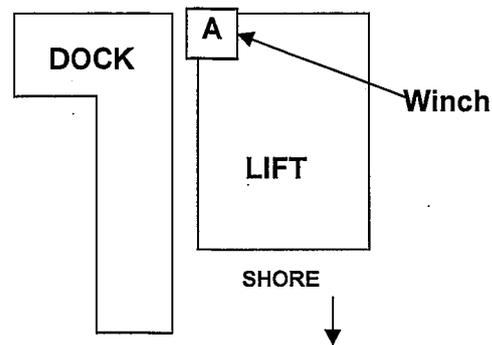

FIG. 36 – PREFERRED POSITION ABOVE
2. When the lift is placed into the water, the winch needs to be positioned next to the dock (See FIG. 36 and 37). Position lift accordingly before placing lift into water.
Note: The **PREFERRED POSITION** of the lift is on the right side of the dock when viewed from the shore (See FIG.36). When the lift is installed in this position, the winch and lifting cable are at the rear of the boat where most of the weight load is concentrated. The lift may be installed on either side of the dock but, keep in mind, if you have a choice, install it as shown in FIG.36.